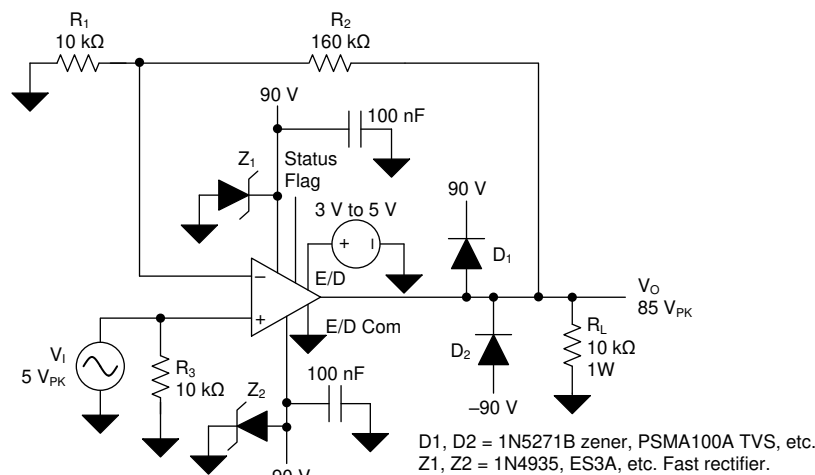

图 61. OPA462, High-Voltage Noninverting Amplifier, $A_V = 17$ V/V
The OPA462 high-voltage op amp can be used in commonly applied op amp circuits, but with the added capability of allowing for the use of much higher supply voltages. A very common application of an op amp is that of a noninverting amplifier with a gain of 1 V/V or higher. 图 61 shows the OPA462 in a noninverting configuration.
图 61 shows a noninverting circuit with a moderately high closed-loop gain (A_V) of 17 V/V (24.6 dB). In this example, a 5-V_{PK} ac signal is amplified to 85 V_{PK} across a $10\text{-k}\Omega$ load resistor connected to the output. The peak current for this application is 8.5 mA, and is well within the OPA462 output current capability. Higher output current, typically up to 30 mA, may be attained at the expense of the output swing to the supply rails. A $\pm 90\text{-V}_{\text{DC}}$ power supply is required for this configuration.
A potentially destructive mechanism is the back EMF transient that can be generated when driving an inductive load. D_1 , D_2 , Z_1 and Z_2 in 图 61 have been added to the basic OPA462 amplifier circuit to provide protection in the event of back EMF. If the voltage at the OPA462 output attempts to momentarily rise above V_+ , D_1 becomes forward-biased and clamps the voltage between the output and V_+ pins. This clamp must be sufficient to protect the OPA462 output transistor. If the event causes the V_+ voltage to increase the power supply bypass capacitor, Z_1 , or both, a Zener diode or a transient voltage suppressor (TVS) can provide a path for the transient current to ground. D_2 and Z_2 provide the same protection in the negative supply circuit.
The OPA462 noninverting amplifier circuit with a closed-loop gain of 17 V/V has a small-signal, -3-dB bandwidth of nearly 800 kHz. However, the large-signal bandwidth is likely of greater importance in a high-output-voltage application. For that mode of operation, the slew rate of the op amp and the peak output swing voltage must be considered in order to determine the maximum large-signal bandwidth. The slew rate (SR) of the OPA462 is typically $6.5\text{ V}/\mu\text{s}$, or $6.5 \times 10^6\text{ V/s}$. Using the 85-V_{PK} output voltage available from the circuit in 图 61, the maximum large-signal bandwidth is calculated from the slew rate formula. 公式 1, 公式 2 and 公式 3 show the calculation process.